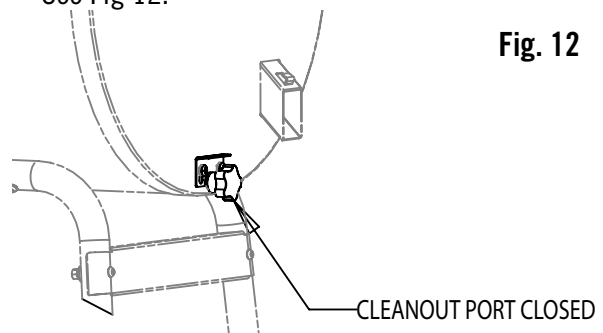

Fig. 12
1. Clean-out Port knob must be pushed in when grill is on. Make sure pullout lock is pushed down and locks the knob to prevent inadvertent opening of the clean-out port. See Fig 12.